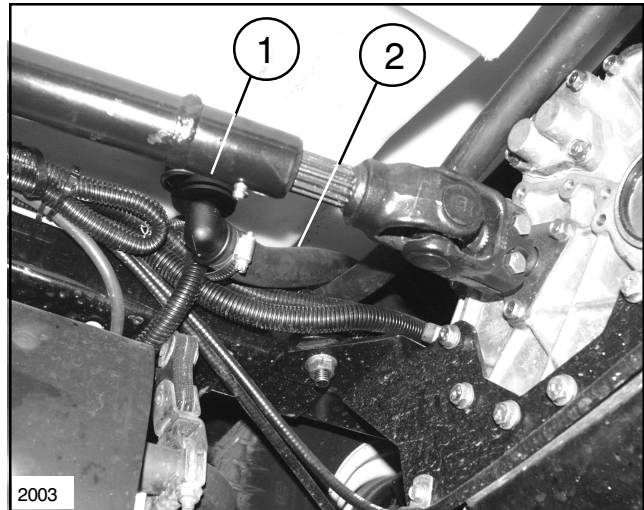

FIG. 4
8. Route the new Hose ASM on the right side of the machine between the fender and tank saddle away from moving parts and sharp edges. Secure ends with forks at the new Bulkhead and at the Boom Section Valves. See FIG 4.